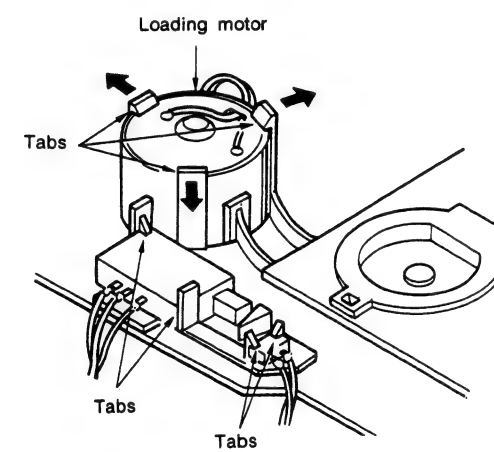

Fig. 5
(5) Removal of the loading motor and switches (Fig. 5)